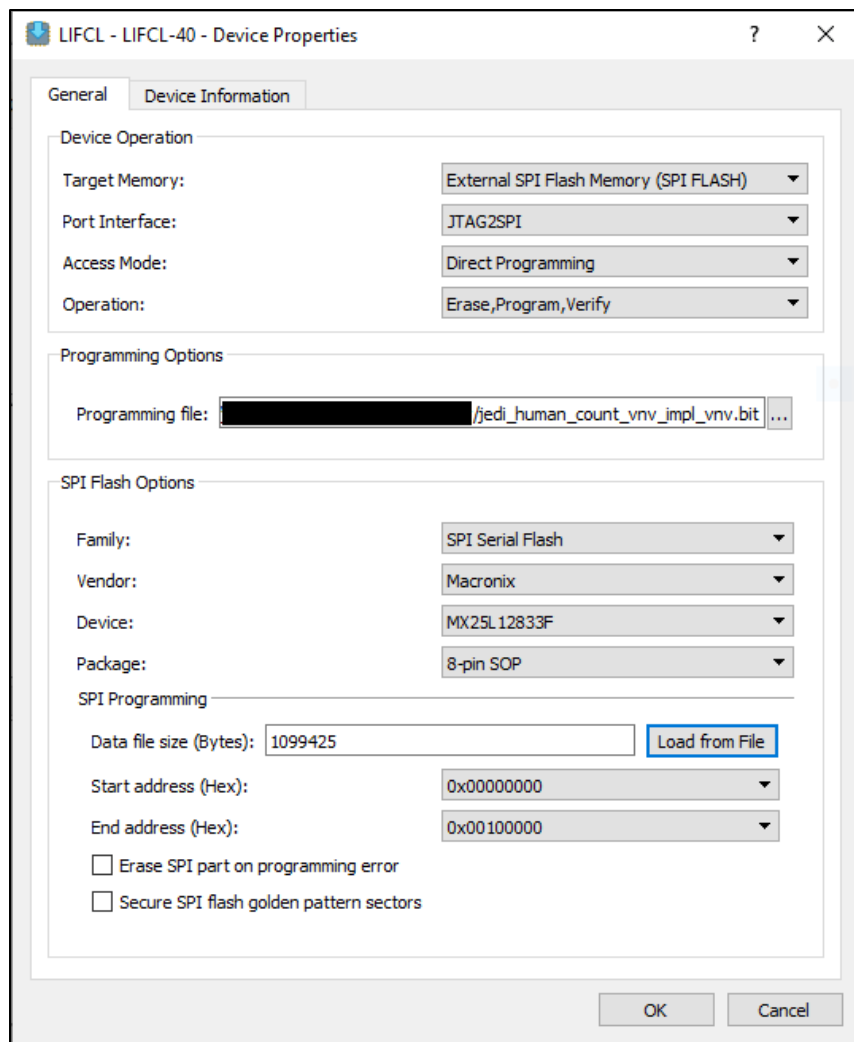

Figure 4.5. Radiant Programmer – Selecting Device Properties Options for CrossLink-NX Voice and Vision Machine Learning (Rev B) Flashing
- c. For **SPI Flash Options**, make the selections as shown in Figure 4.5.